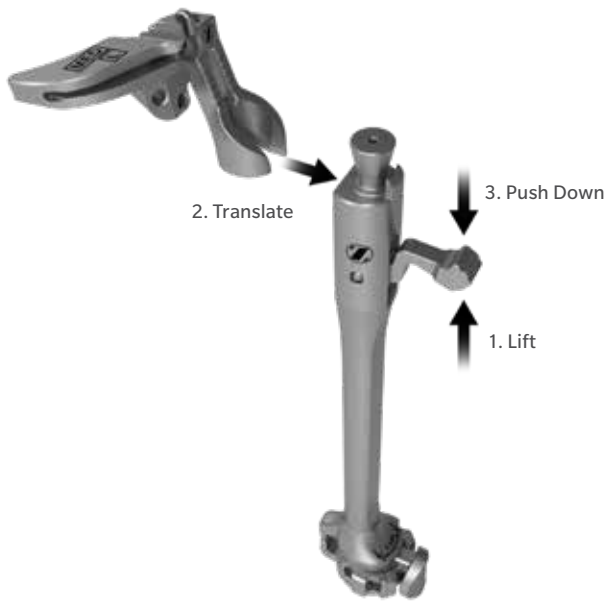

Figure 71
Assemble the extramedullary (EM) alignment guide. Attach the tibial cut guide to the EM alignment guide by lifting the lever of the EM proximal tube translating the tibial cut guide onto the top of the EM proximal tube, under the locking cone. Secure by pushing the lever on the EM proximal tube down to lock the tibial cut guide in place (Figure 71).